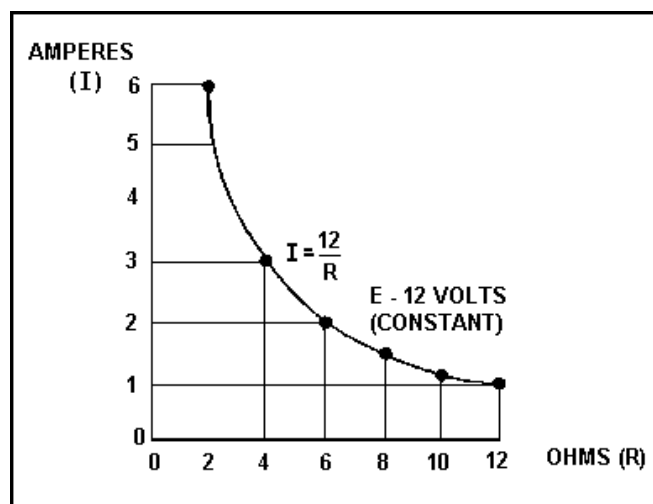

Figure 3-8.— Relationship between current and resistance.
When the voltage across a load is held constant, the current depends solely upon the resistance of the load. For example, figure 3-8 shows a graph with the voltage held constant at 12 volts. The independent variable is the resistance which is varied from 2 ohms to 12 ohms. The current is the dependent variable. Values for current can be calculated as:
*Q8. Using the graph in figure 3-8, what is the approximate value of current when the resistance is 3 ohms?*